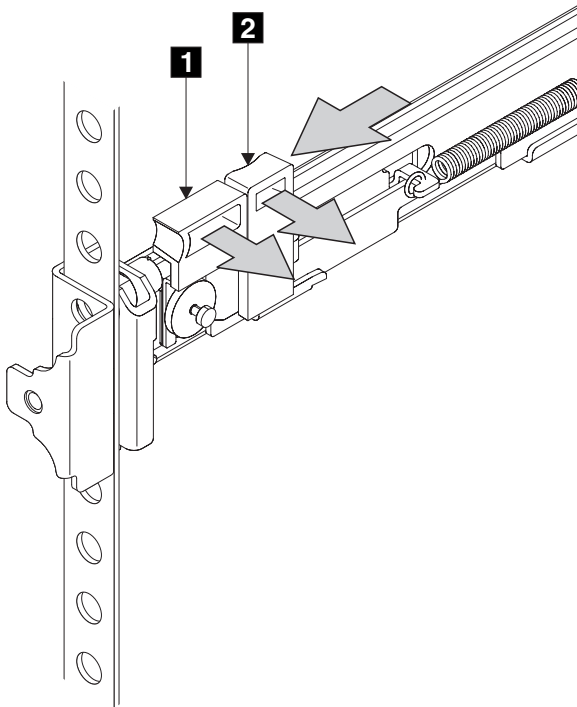

Figure 64. Closing the latch-lock carrier assembly
8. Push the latch lock **2** (Figure 64) away from the rail to release the carrier. The latch-lock carrier slides toward the front of the rack and the locating pins project through the holes that are in the front flange and in the front rail bracket.